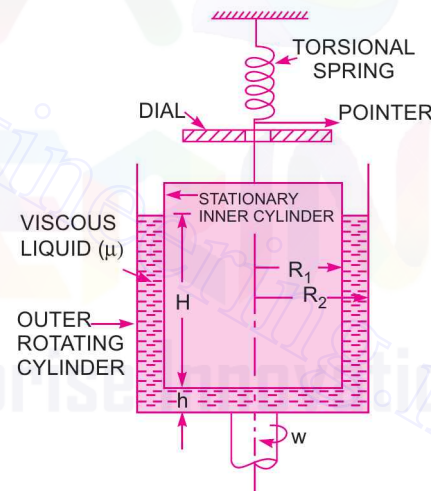

Fig. 9.16 Rotating cylinder viscometer.
**9.8.3 Rotating Cylinder Method.** This method consists of two concentric cylinders of radii  $R_1$  and  $R_2$  as shown in Fig. 9.16. The narrow space between the two cylinders is filled with the liquid whose viscosity is to be determined. The inner cylinder is held stationary by means of a torsional spring while outer cylinder is rotated at constant angular speed  $\omega$ . The torque  $T$  acting on the inner cylinder is measured by the torsional spring. The torque on the inner cylinder must be equal and opposite to the torque applied on the outer cylinder.